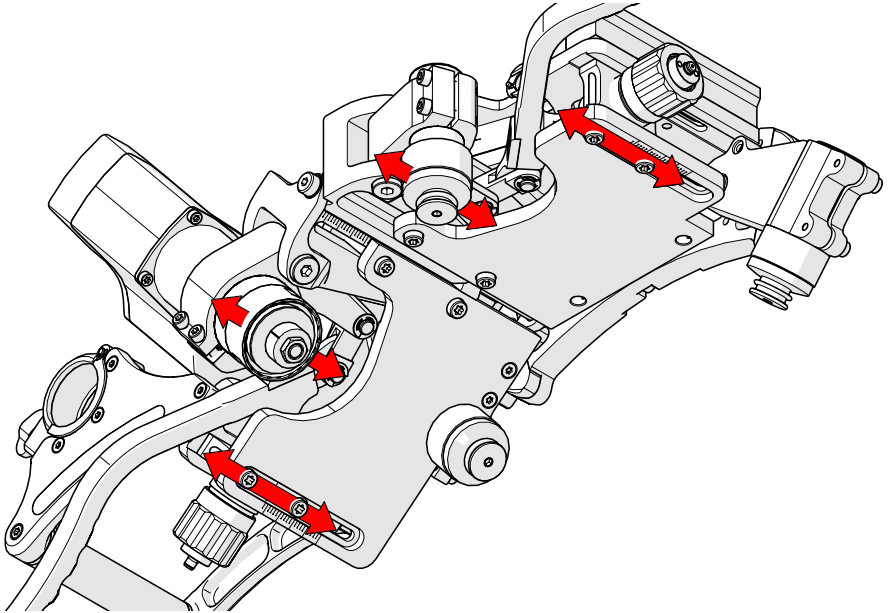

Fig. 68 - Position as required
2. Position as required to properly fit the band width (Fig. 68).